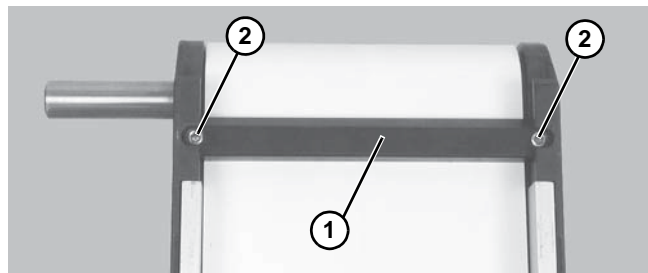

Figure 27
1. If equipped, remove bottom wipers (**Figure 27, item 1**): Remove fastening screws (**Figure 27, item 2**) then remove wiper.